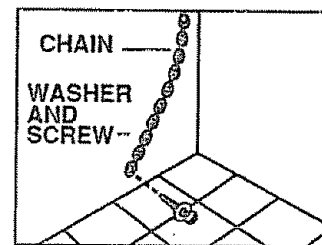
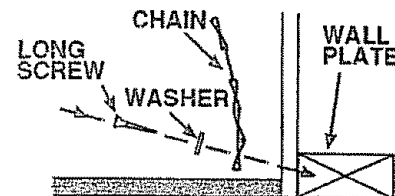

Fig. 2
Fig. 3
- 2) Fasten one end of the stability chain to the floor or the wall with the long screw and washer supplied (See Fig. 2). Make certain the screw is going into the wall plate or stud at the base of the wall (See Fig. 3). Whether you attach the chain to the wall or floor, be certain there are no electrical wires or plumbing in this area, and that the screw penetrates the wood or other baseboard at least 3/4". Attach the stability chain in a location which will allow the chain to be in line with the bracket side to side as much as possible when attached to the range. Test by tugging to see if the chain is securely fastened.